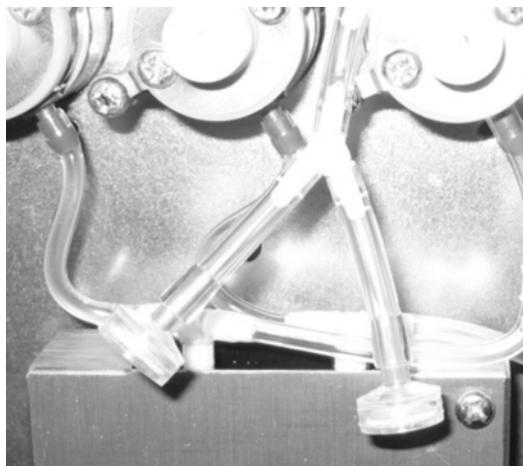

Figure10-50 Vacuum filter
2. Find the filter shows in Figure10-50;